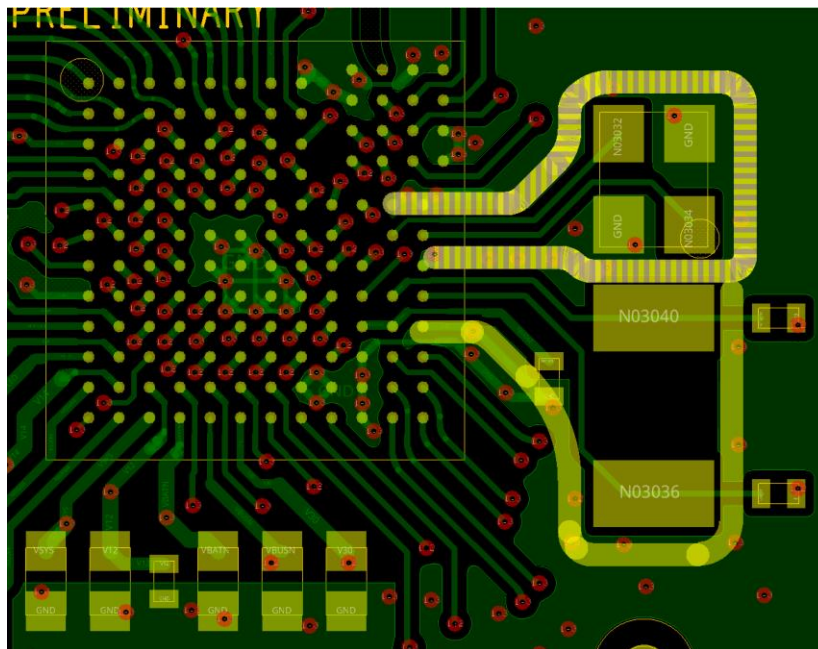

Figure 18: XTAL Grounding
- If possible, try to create a ground shield around the crystals. XTAL32M ground is connected to the XTAL32M GND balls (Figure 18)